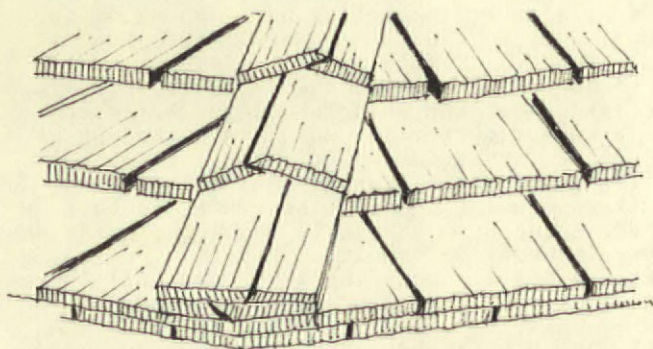

Figure 2
**W**HEN THE RIDGE is reached at last, choose shingles of uniform width, 3 to 5 in. Cut back the edges on a bevel and alternate overlap. A great deal of time and effort can be saved here if factory assembled hip and ridge units are available. (See figure 2)